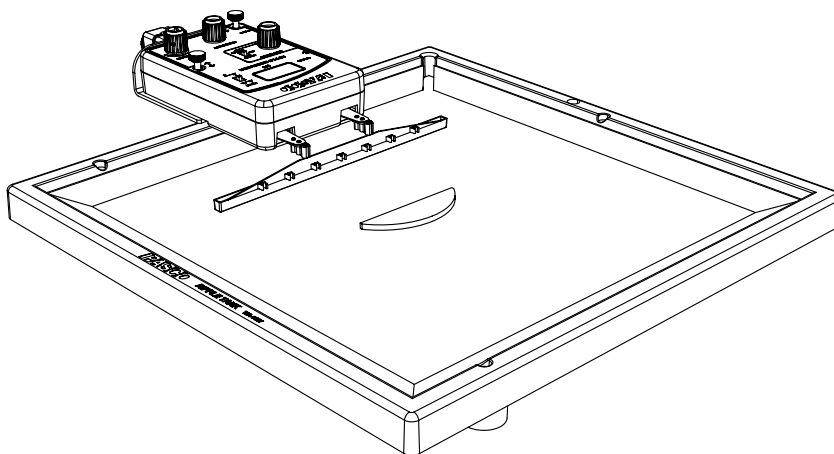

Figure 2.3: Position of Convex Refractor
1. Replace the trapezoidal refractor with the convex refractor, placing it in the middle of the tank with the straight side parallel to the plane wave dipper and about 5 cm from the dipper as shown in Figure 2.3.